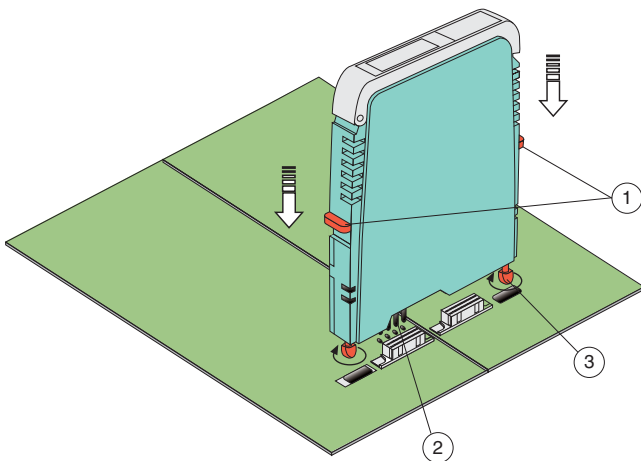

Figure 10 Proper mounting of an H-System isolated barrier
- Ensure that the red Quick Lok Bar (1) is in the upper position.
- Observe the plug orientation of the device. Insert the coding pins (2) of the module in the corresponding coding holes on the board. Now center the adjustment pins (3) to the adjustment holes on the Termination Board.
- For the mechanical adjustment of the module press the red Quick Lok Bar (1) down on either side of the device (see Figure 10)